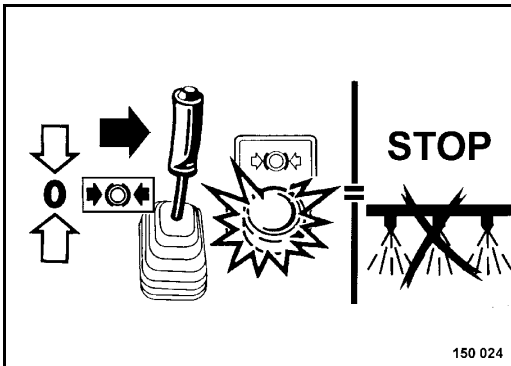

Fig. 83
- To switch off the pressure sprinkler system return the travel lever to the position "brake closed" (Fig. 83).